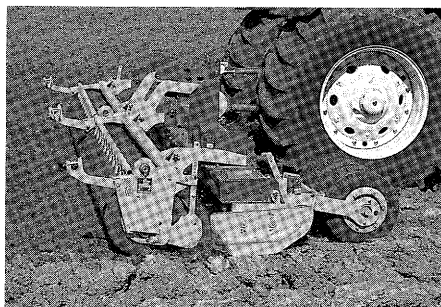

Fig. 47
- 1. Carrying arms (Fig. 47 and 48) for AMAZONE rotary cultivator KG 601:**